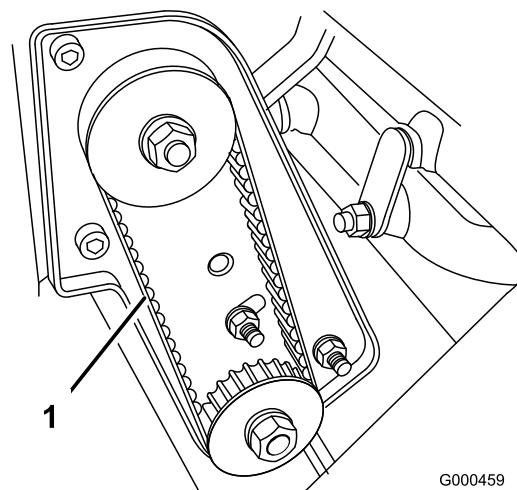

Figure 35
2. Check tension by depressing belt (Figure 35) at mid span of pulleys with 4 ± 1 lb. of force. Belt should deflect $3/16$ to $5/16$ inch (4.8 to 7.9 mm). If the deflection is incorrect, proceed to next step.